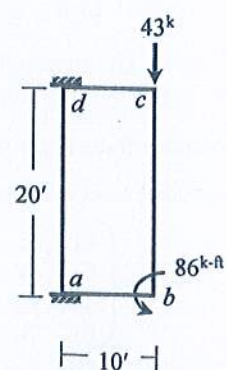

Fig. 4
- Use stiffness method (neglecting axial deformations) to calculate the deflections and rotations of joints **b** and **c** of the frame **abcd** loaded as shown in **Fig. 4**